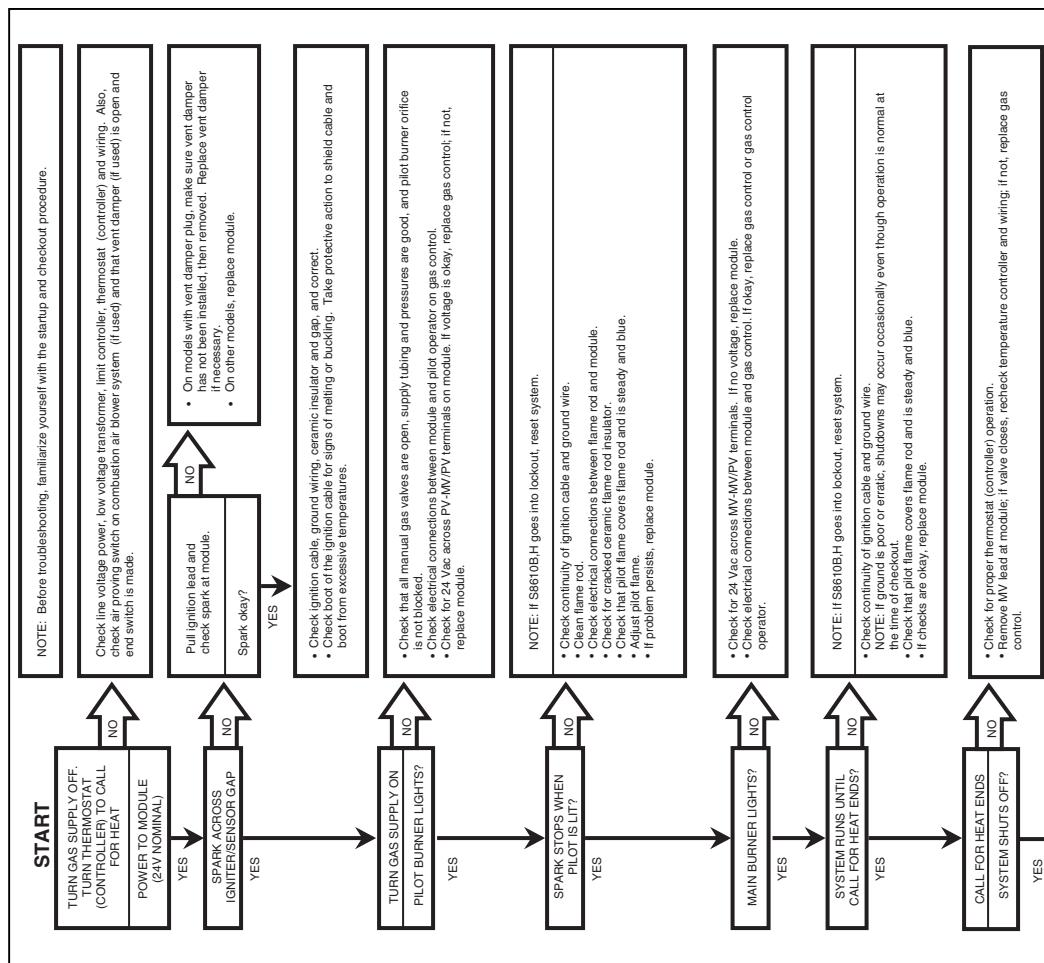

Fig. 15—S8610 troubleshooting guide.
Perform the checkout on page 12 as the first step in troubleshooting. Then check the appropriate troubleshooting guide (Fig. 15 or 16) and the schematic diagram (Fig. 17 or 18) to pinpoint the cause of the problem. If troubleshooting indicates an ignition problem, see Ignition System Checks below to isolate and correct the problem. Following troubleshooting, perform the checkout procedure (page 12) again to be sure system is operating normally.
- If main burner doesn't light or if main burner lights but system locks out, check module, ground wire, and gas control as described in appropriate troubleshooting chart, Fig. 15 or 16.